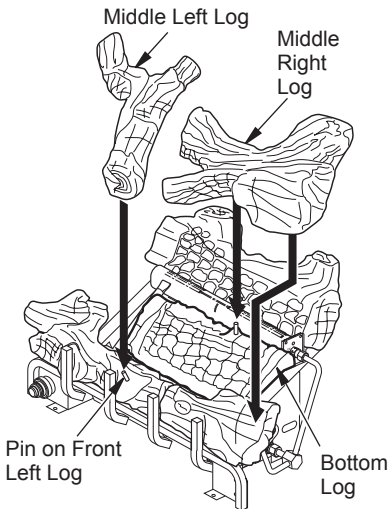

Figure 26 - Installing VUL Model Log Sets
5. Place middle right log over front right and bottom logs as shown in Figure 26, page 19. Be sure hole in middle right log seats over pin in bottom log.
6. Place middle left log over front left and bottom logs as show in Figure 26. Be sure hole in middle left log seats over pin in front left log.